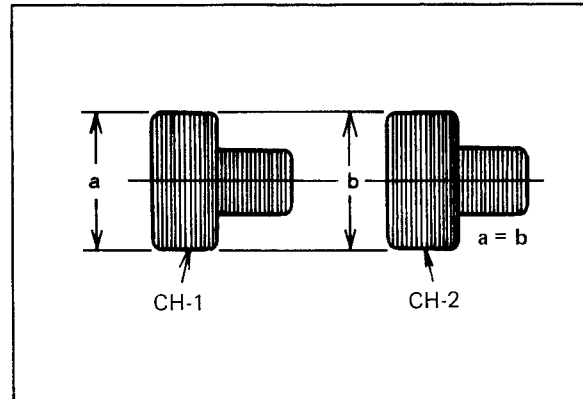

Fig. 6-32 Playback colour channel balance
- Adjust the levels to be equal by using R49 (P.B. COLOUR CH. BALANCE) as shown in Fig. 6-32.